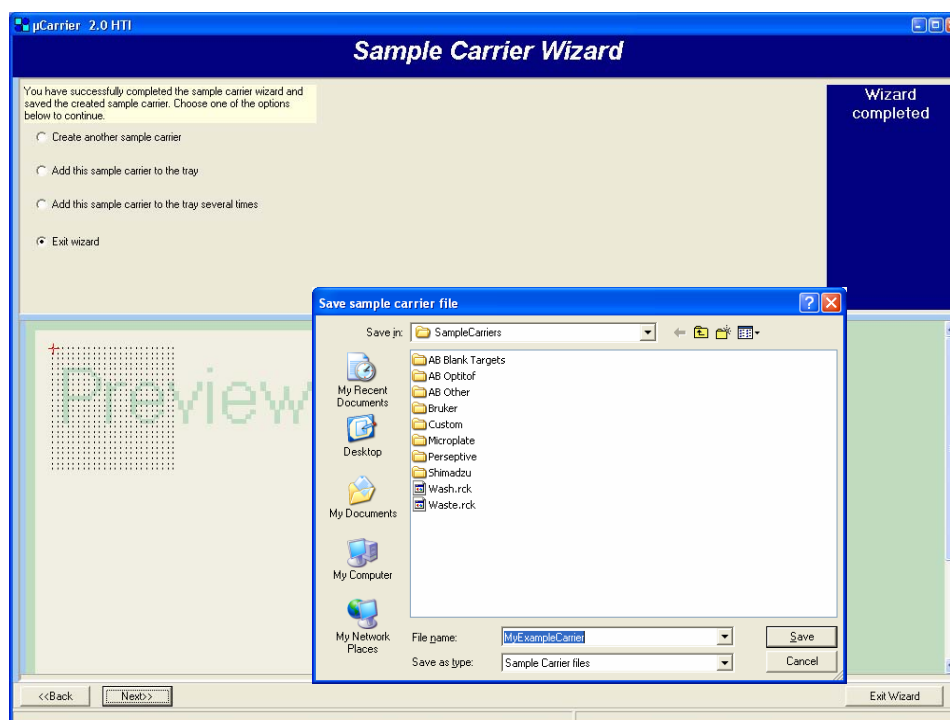

FIGURE 2-26 Sample Carrier Wizard - Completed
- g) Choose **Next** to save the sample carrier. You are prompted to define a name and a directory where you want μ Carrier to save the sample carrier definition (FIGURE 2-26).